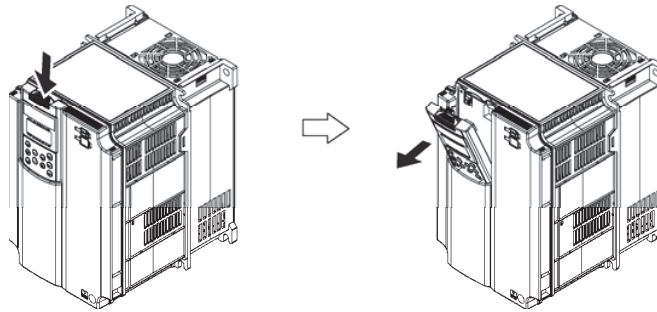

Figure 2.3-4 Removing a Keypad
(1) Remove the keypad by pulling it toward you with the hook held down as directed by the arrows in Figure 2.3-4.